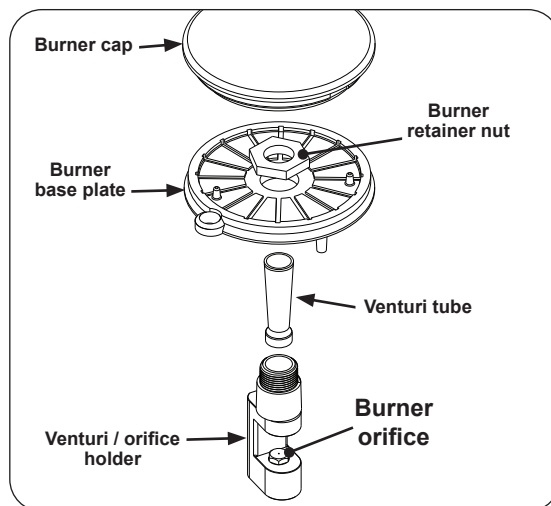

Fig. 24-1 Burner details
2. Remove the retainer nut using an adjustable wrench (see Fig. 24-1).
3. Remove the burner base plate and the venturi tube (see Fig. 24-1).
4. Carefully lift out the entire sideburner body from the enclosure and carefully set it on it's side to access the venturi/orifice holder. See Fig. 24-1.